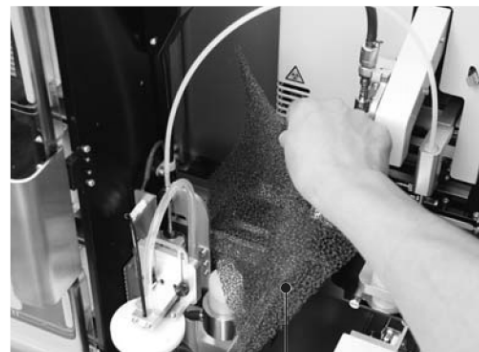

Figure 2-W
5. Place the sheet in the tray below the receiving rack arm (Figure 2-W).